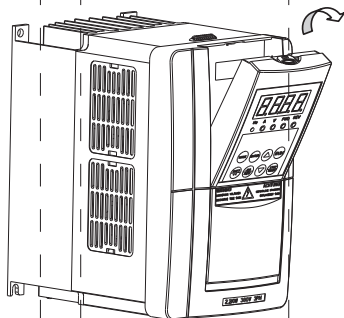

Fig. 3-8 Mounting Demonstration of the operator panel and connecting wire of the inverter Model A
Step 1. Hand down and press down the notch of the upper side of the keypads .and buckle up. pull down the wire between the keypad and control board . Then remove the keypad. (as shown in Figure 3-8)